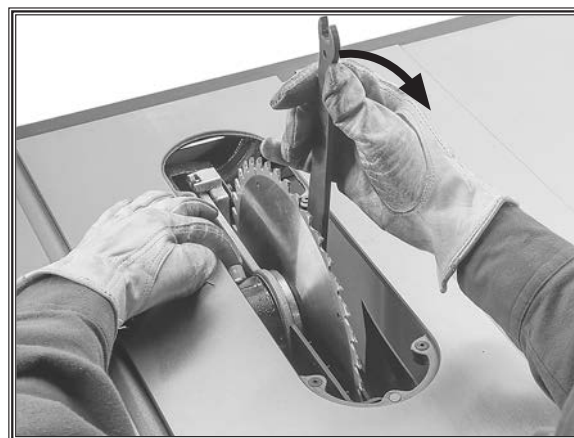

Figure 45. Example of removing table saw blade.
4. While pressing arbor lock, use included arbor wrench to loosen and remove arbor nut, flange, and blade (see **Figure 45**).